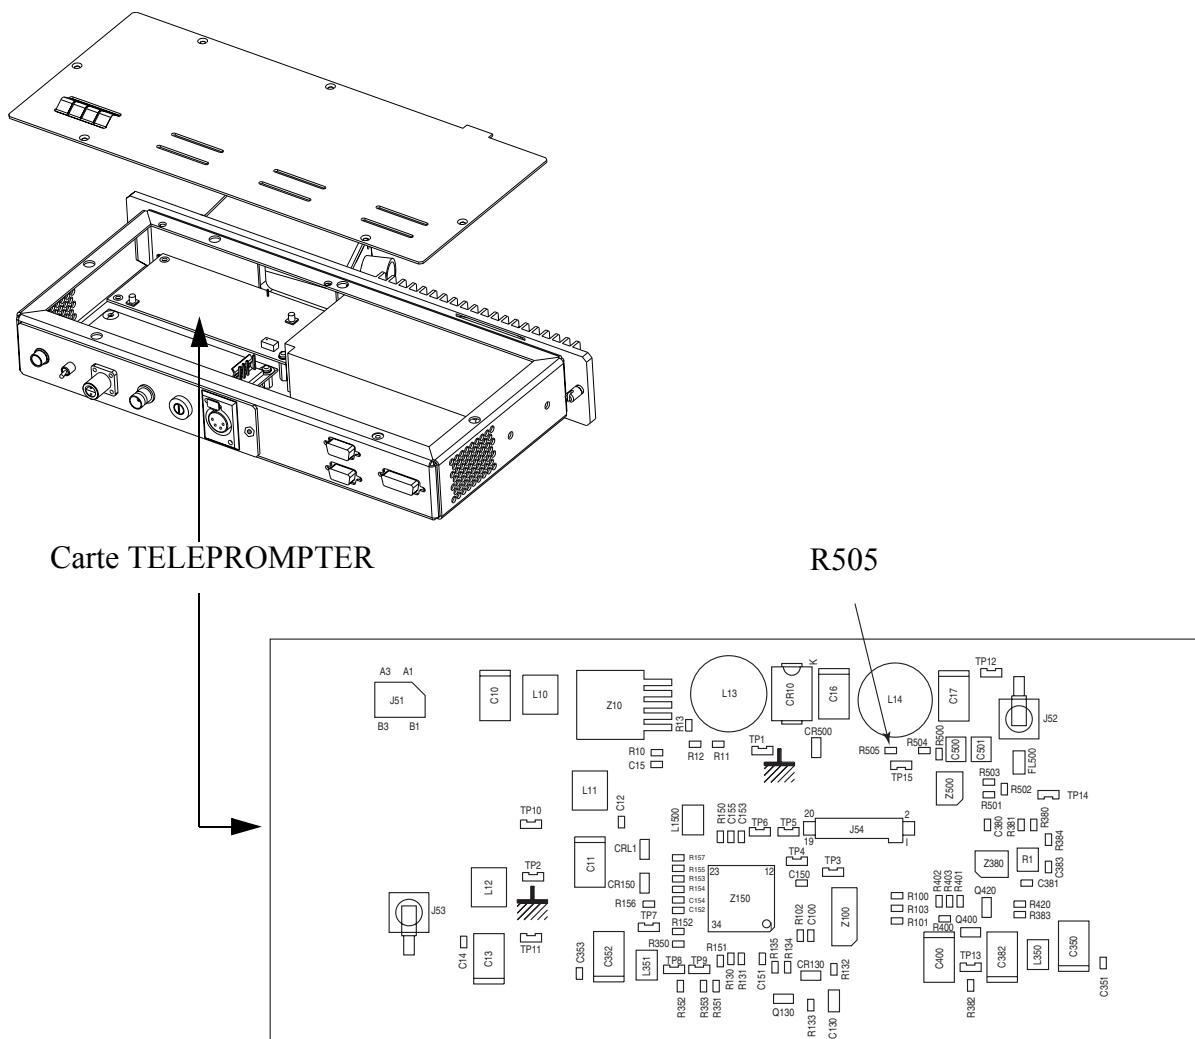

Figure 2.12: Accessing the R505 bridge
- Unsolder the R505 bridge on the TELEPROMPTER card (see Figure 2.12: Accessing the R505 bridge, page 51)